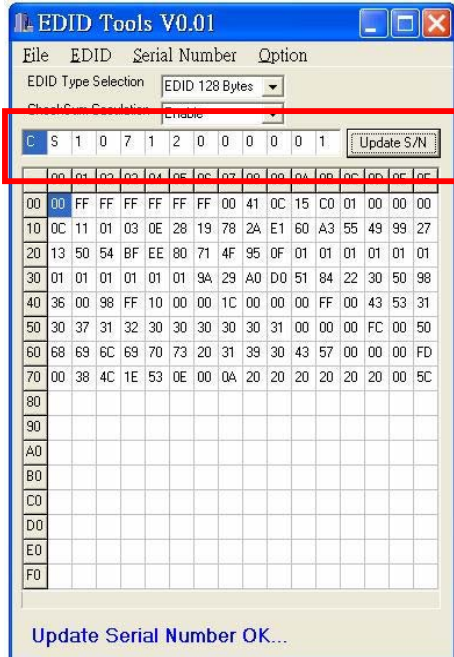

Fig.8
4. Modify Serial Number then Press "Update S/N" button as shown in Fig.8.